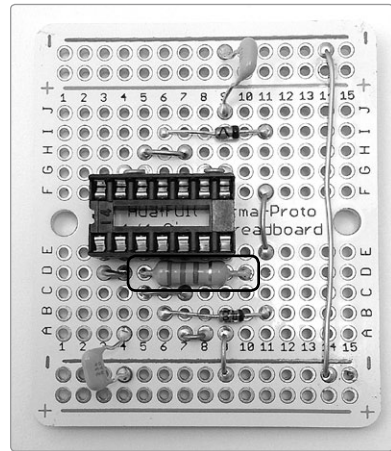

FIGURE 15-12: The 220 ohm resistor
Step 10 Add the 220 ohm resistor (red-red-brown stripes). Run this resistor from 5D to 10D. Solder both ends of the resistor as well as IC socket pin 3, as shown in Figure 15-12.